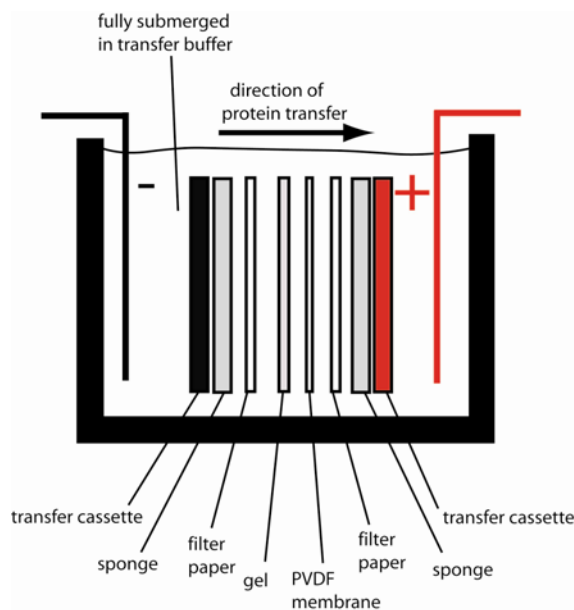

Figure 1. Assembly of Electroblotting sandwich in submerged transfer apparatus.
- After electrophoresis is finished the gel should be soaked in transfer buffer for 30 minutes before assembling the transfer sandwich detailed in Figure 1.